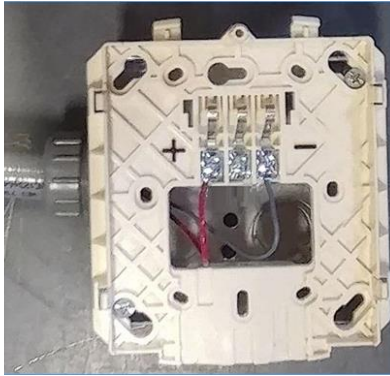

Figure 10
11. See **Figure 10**. Connect wires at additional Signal Horns. **IMPORTANT! Do not branch Signal Horn circuit. Run circuit from the first Signal Horn to the second Signal Horn, then the second Signal Horn to the third, and so on.**